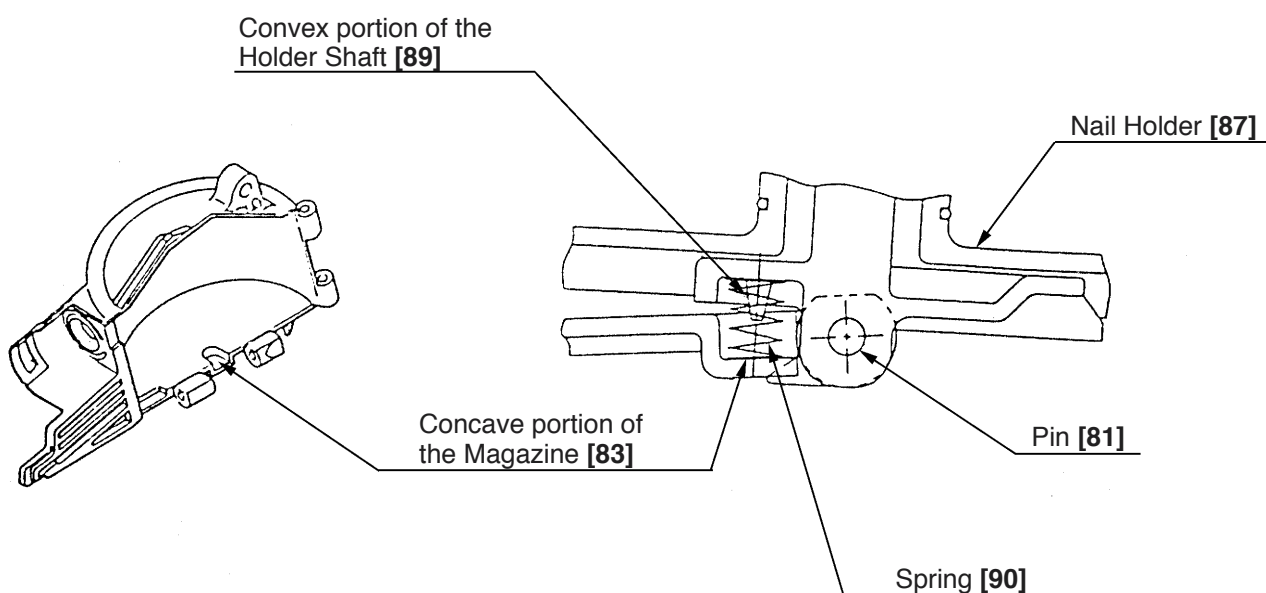

Fig. 21
- Check that the Spring [90] is inserted between the concave portion of the Magazine [83] and the convex portion of the Holder Shaft [89]. Then insert the Pin [81] when mounting the Holder Shaft [89] to the Magazine [83] (Fig. 21).